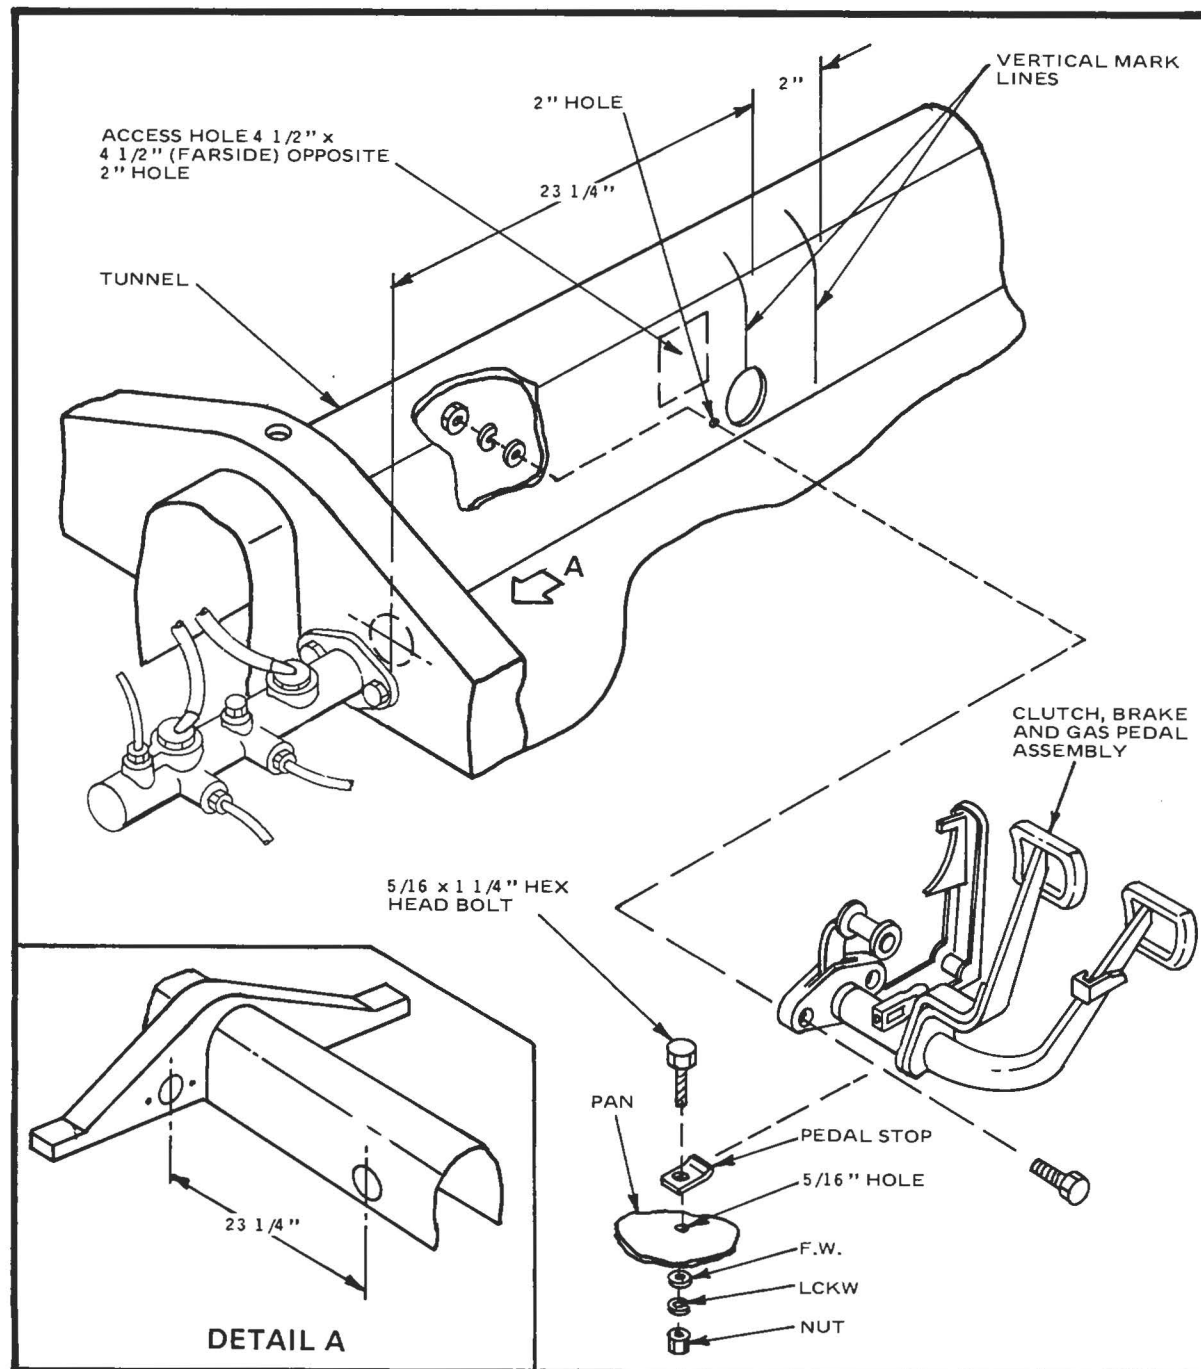

Figure 6
- ☐ From the rear of the forward cross member measure back 23 1/4" and draw a vertical line. This reference line is the center location of the 2" pedal clearance hole and will be used in a later step. (Figure 6)